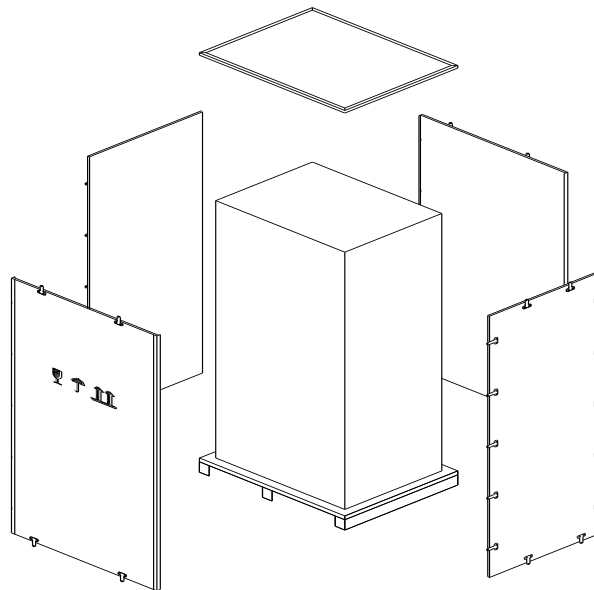

Figure2-4 Disassemble the case
- 3) Open the top plate of the steel-edged wooden case with slotted awl and pier, followed by sideboards (see Figure2-4).